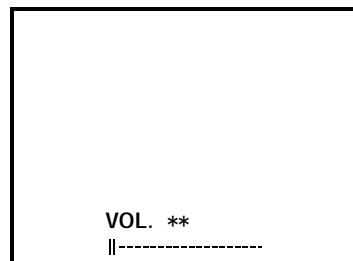

Fig.1
1. Press the VOL+key ( or VOL-key ) and check VOL. on the screen as shown in Fig.1.